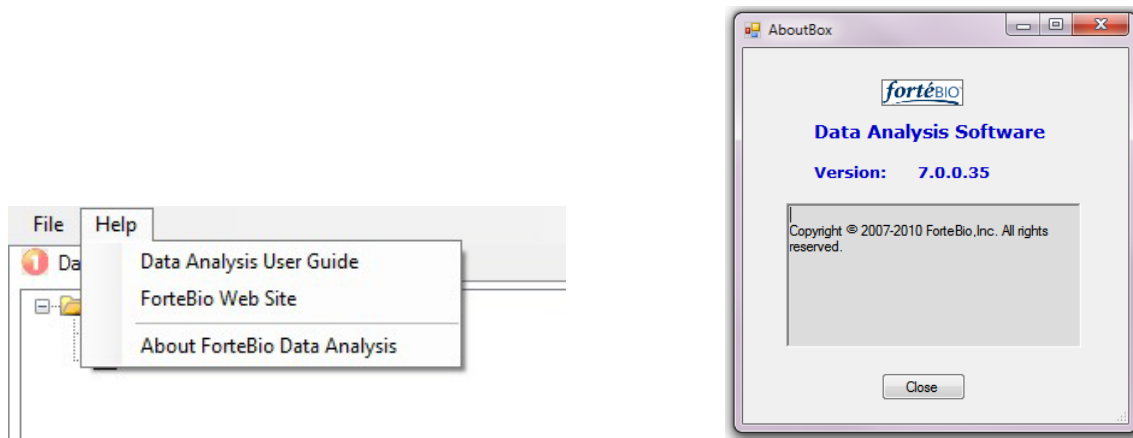

FIGURE 2.7. FIND OCTET DATA ANALYSIS SOFTWARE VERSION NUMBERS ON YOUR OCTET SYSTEM AND RECORD THEM IN TABLE 2.6.
- 1.5. In the pop-up screen that appears, find and record the software version number in Table 2.6. To do this, write down the numbers that follow the words "Version:" as shown in Figure 2.7.